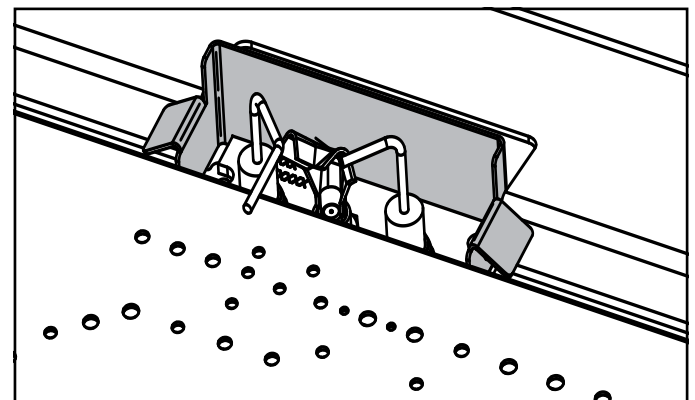

Figure 9.6 Pilot Shield Installed
- Bend the side tabs downward to an angle greater than 90 degrees to secure it into position as shown in Figure 9.6.